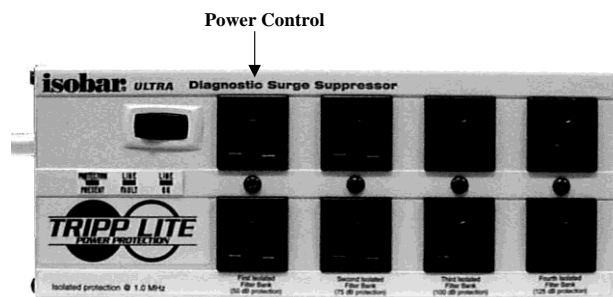
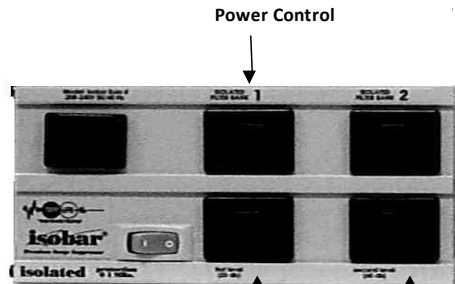

Figure 3-22. (110V AC) Configuration.
Figure 3-23. (220V AC) Configuration.
3. Attach the other end of the AC power cord to the appropriately labeled jack on the surge suppressor. (See Figure 3-22 or Figure 3-23).